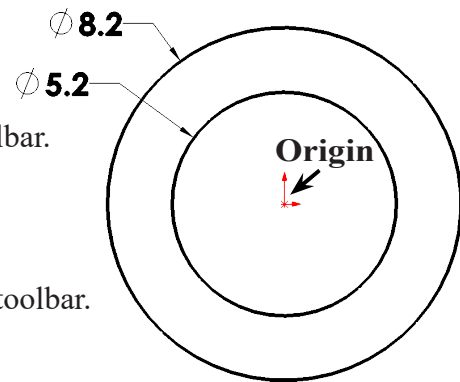

Fig. 2
Step 3. Click **Circle**  (S) on the Sketch toolbar.
Step 4. Sketch two circles at the **Origin** , **Fig. 2**.
Step 5. Click **Smart Dimension**  (S) on the Sketch toolbar.
Step 6. Dimension circle **diameters 8.2 and 5.2**, **Fig. 2**.